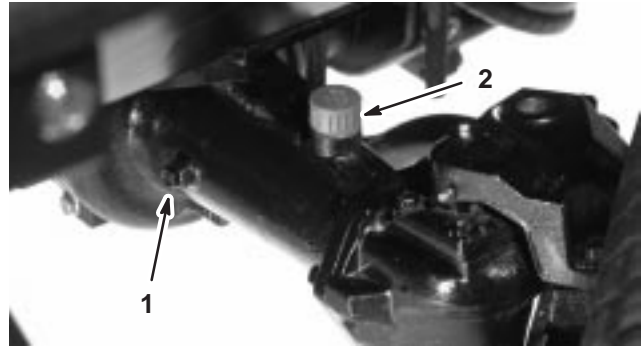

Figure 11
2. Remove a check plug from one end of the axle (Fig. 11) and make sure that the lubricant is up to the bottom of the hole. If the level is low, remove the fill plug (Fig. 11) and add enough lubricant to bring the level up to the bottom of the check plug holes.